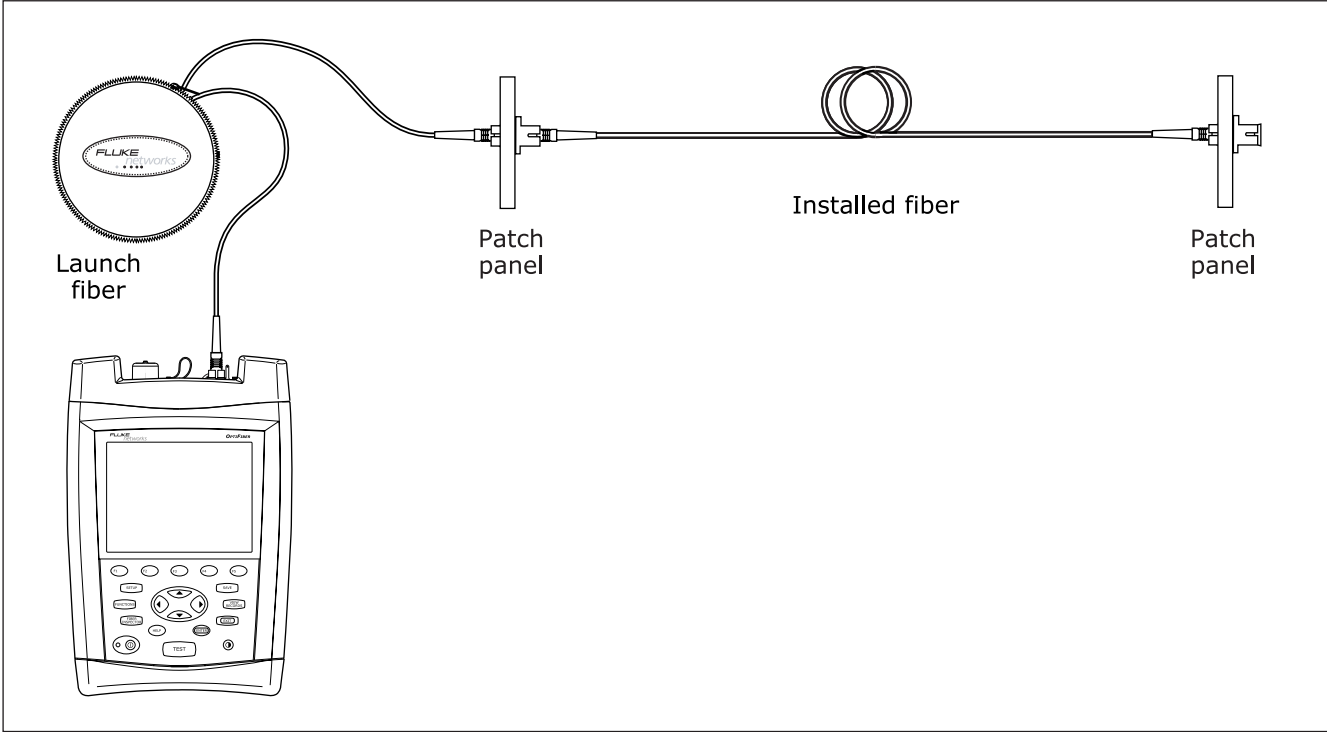

Figure 9. Connecting the OTDR to Installed Fiber (no receive fiber)
- 7 Connect the tester's OTDR port to the cabling, as shown in Figure 9, 10, or 11.